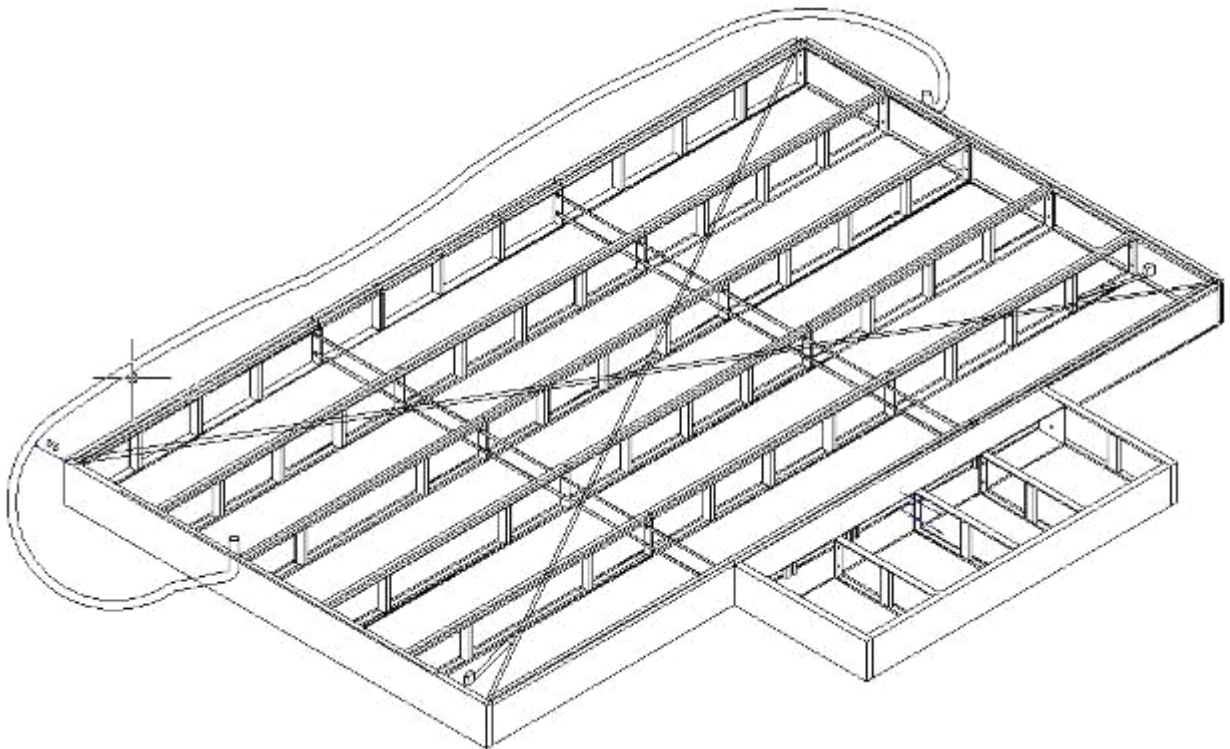

Fig. 3.5
2. Adjust the level of the connect point: find the highest point with the level measure apparatus, then elevate other points with something. Shown in Fig.3.5
3. Adjust the uprightness: adjust the side boards and middle bracket with beeline, and distribute the distance between the rows, so that we can put the grids easily. Shown in Fig.3.5.
4. Check that all the longitudinal pieces have been mounted perfectly perpendicular to the end heads, to do this measure the two diagonals between the corner of the anterior end head and the opposite corner of the anterior end head, if they show the same values we are certain that it is assembled correctly. and the error value should be less than 5mm (shown in Fig.3.5).
5. Install the bottom of the heat-air generator: the air out mouth should be connect with the metal sides board. (shown in Fig.3.5)